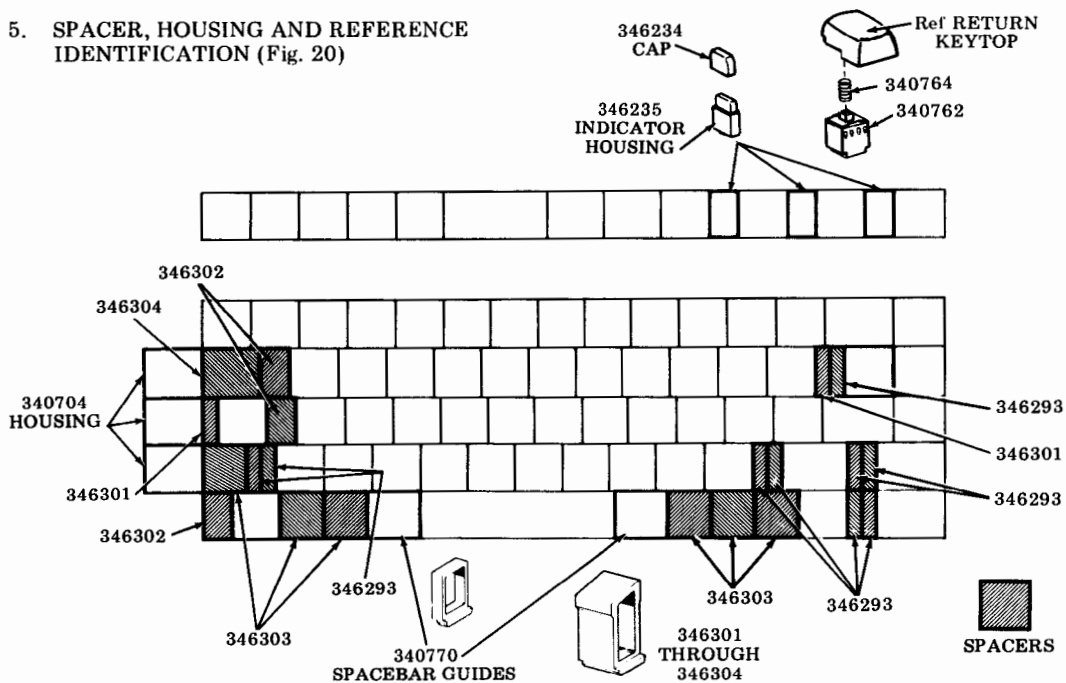

Fig. 20
5. SPACER, HOUSING AND REFERENCE IDENTIFICATION (Fig. 20)